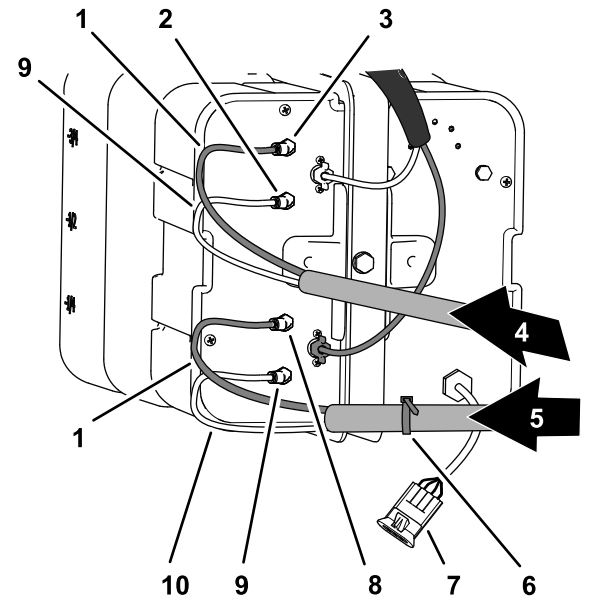
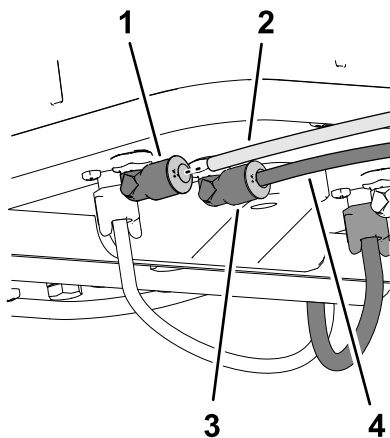

Figure 140
Figure 141
1. Route the foam tubes for the right boom as shown in Figure 140.
2. Insert the clear tube into the air fitting at the side compressor plate (Figure 140 and Figure 141).
3. Insert the blue tube into the liquid fitting at the side compressor plate (Figure 140 and Figure 141).
4. Route the foam tubes for the left boom as shown in Figure 140.
5. Insert the clear tube into the air fitting at the side compressor plate (Figure 140 and Figure 141).
6. Insert the blue tube into the liquid fitting at the side compressor plate (Figure 140 and Figure 141).